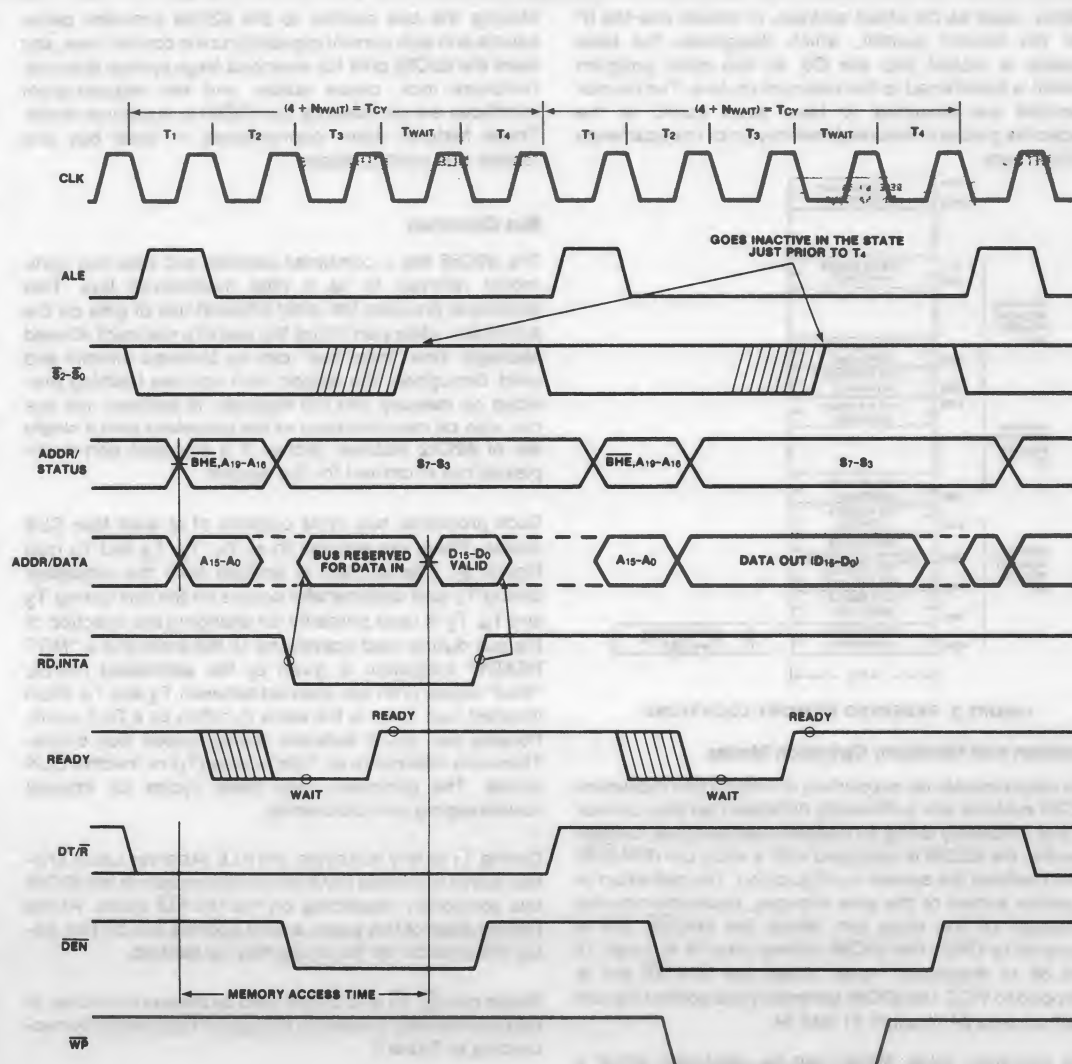

FIGURE 3. BASIC SYSTEM TIMING
Each processor bus cycle consists of at least four CLK cycles. These are referred to as T_1 , T_2 , T_3 and T_4 (see Figure 3). The address is emitted from the processor during T_1 and data transfer occurs on the bus during T_3 and T_4 . T_2 is used primarily for changing the direction of the bus during read operations. In the event that a "NOT READY" indication is given by the addressed device, "Wait" states (TW) are inserted between T_3 and T_4 . Each inserted wait state is the same duration as a CLK cycle. Periods can occur between 80C86 driven bus cycles. These are referred to as "idle" states (T_1) or inactive CLK cycles. The processor uses these cycles for internal housekeeping and processing.
Typical system configurations for the processor operating in minimum mode and in maximum mode are shown in Figures 6A and 6B, respectively. In minimum mode, the $\overline{MN}/\overline{MX}$ pin is strapped to V_{CC} and the processor emits bus control signals (e.g. \overline{RD} , \overline{WR} , etc.) directly. In maximum mode, the $\overline{MN}/\overline{MX}$ pin is strapped to GND and the processor emits coded status information which the 82C88 bus controller used to generate MULTIBUSTM compatible bus control signals. Figure 3 shows the signal timing relationships.